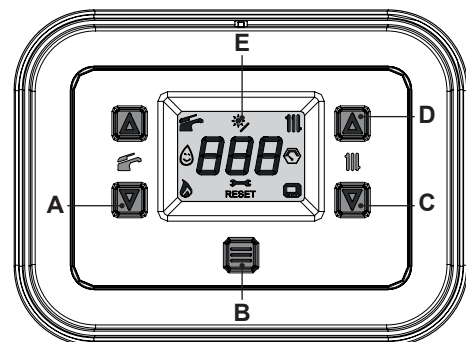
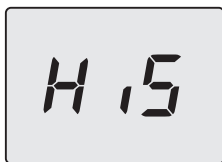

Figure 4.3
Figure 4.4
- 1 To enter in the parameters setting mode press at the same time the 2 keys "A" and "C" (Figure 4.3) and hold in for 5 second until the display shows Figure 4.4.
- 2 Scroll the various menus using keys "A" or "C" (Figure 4.3) until the LCD display indicates the letters **PAr** (Figure 4.5).
- 3 To enter the selected menu press key "B" (Figure 4.3) for 1 second.
- 4 Scroll the various menus using keys "A" or "C" (Figure 4.3) until the LCD display indicates the letters **P34** until the LCD display indicates the value of parameter 34 (e.g. **12** default value) Figure 4.6.
- 5 To enter the selected parameter press key "B" (Figure 4.3) for 1 second. The display will show the following (Figure 4.7).
- 7 By pressing key "B" (Figure 4.3) confirmation of the inserted value is obtained. The display will show the following (Figure 4.8) for 5 seconds, then move up to the next level.
- press the "A" and "C" keys simultaneously for 5 seconds (Figure 4.3) (return to previous level).